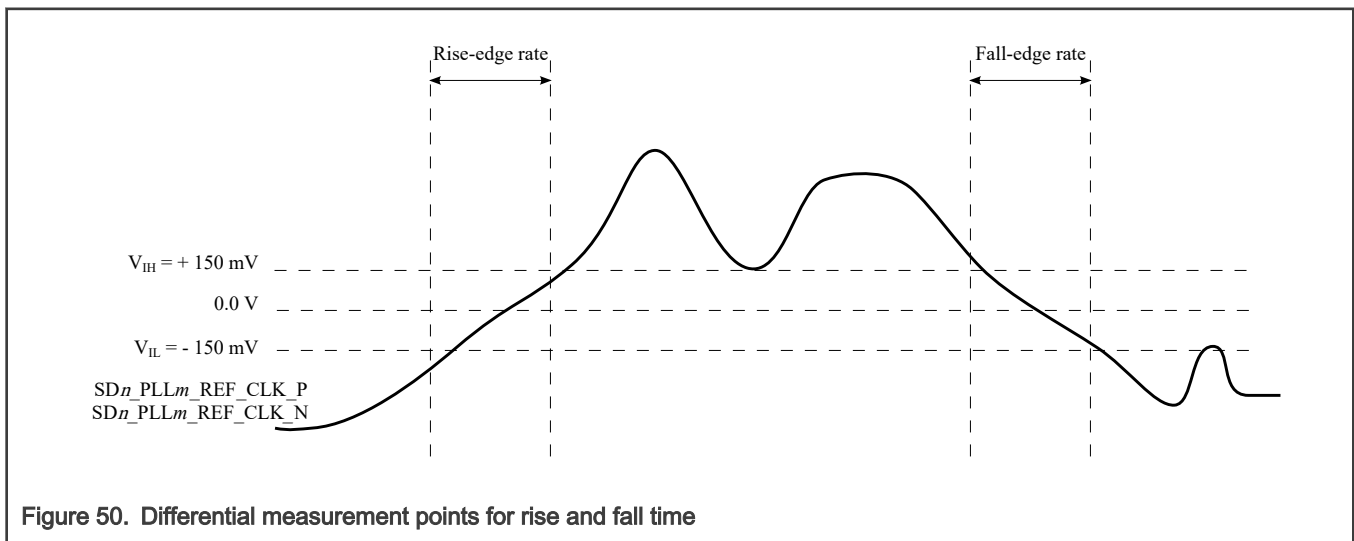

Figure 50. Differential measurement points for rise and fall time
- Differential Waveform** The differential waveform is constructed by subtracting the inverting signal (SD_TX_n_N, for example) from the non-inverting signal (SD_TX_n_P, for example) within a differential pair. There is only one signal trace curve in a differential waveform. The voltage represented in the differential waveform is not referenced to ground. See Figure 50 as an example for differential waveform.
8. See Figure 50.